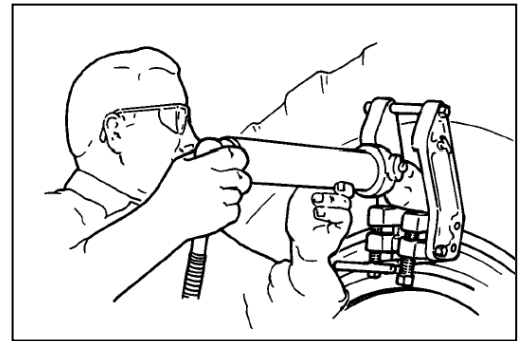

Figure 5
5. Apply pressure to cylinder and spade by means of pump until spade has moved tire bead toward center of rim assembly far enough to permit the placing of a bead wedge between bead and flange on each side of the tool. Do not stand in front of tool is under pressure. See Figure 5.